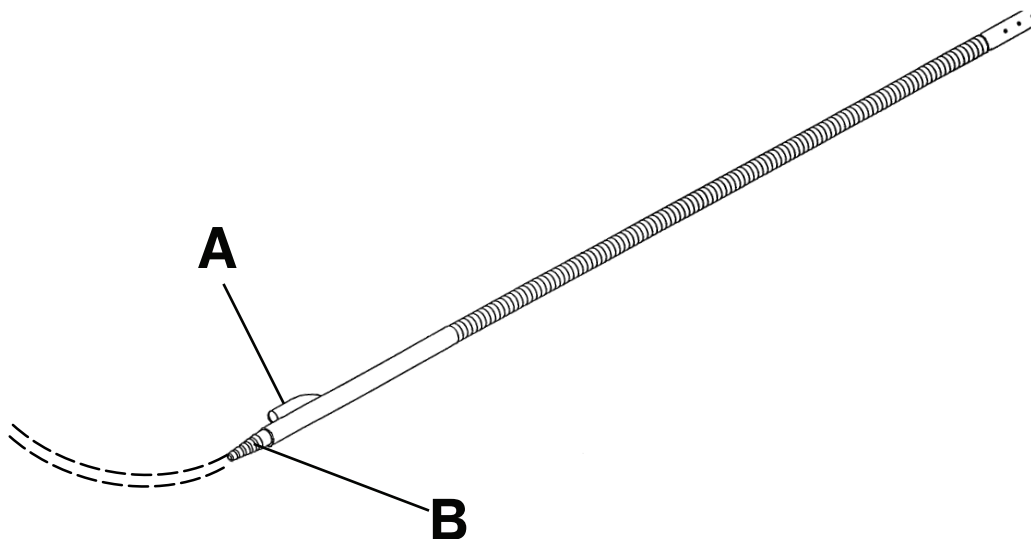

Figure 9 – Air delivery tubing
1. Place the mounting tab (A) into the IV socket at the head end of the product.
2. Insert the air delivery tube into the air tube receptacle (B) (Figure 9).